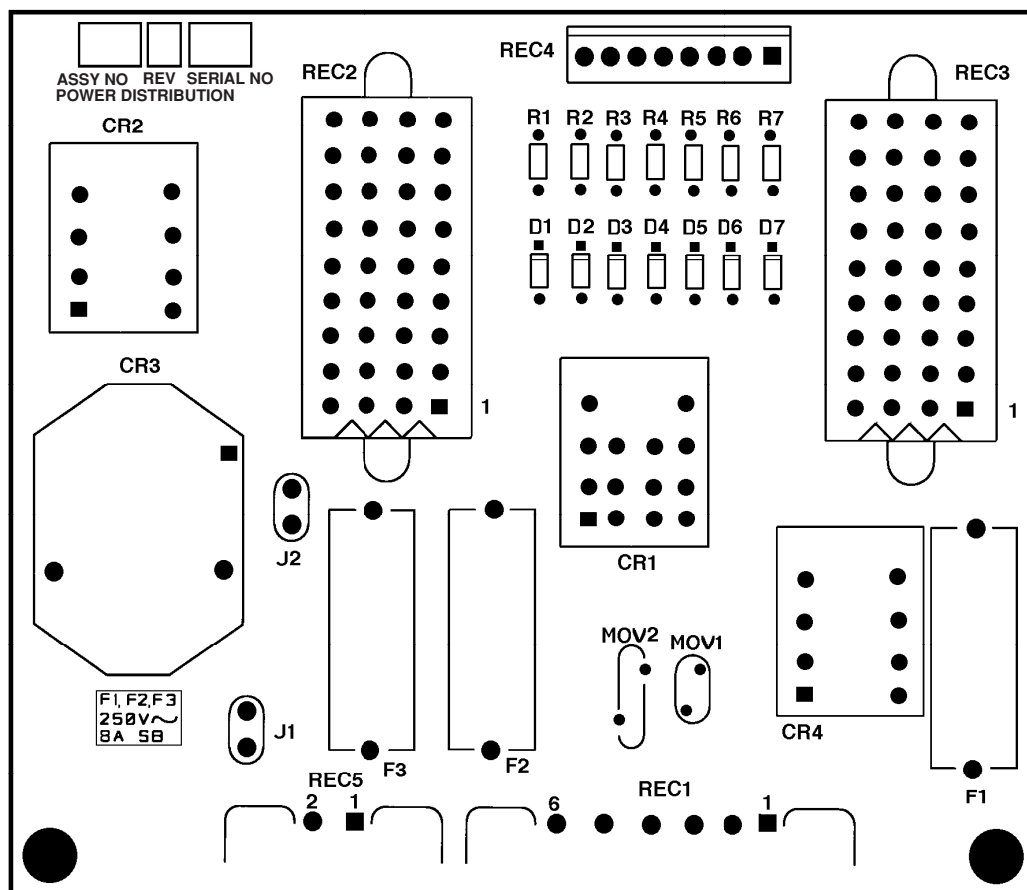

Figure 5-2 Power Distribution Board 1XPCB2
6. Measure voltage at Power Distribution Board 1XPCB2. Refer to Figure 5-2 for detail of 1XPCB2. Also refer to applicable wiring diagram at back of manual, if required. Look on the board for fuses F1, F2, and F3. Measurements between each fuse and chassis ground should be as follows:
1. The green POWER ON push-button switch PB1 is pressed, but the fans are not operating and the green POWER ON indicator does not light.	<div>1.1. The green POWER ON (1) PB1 push button is defective. Check that switch is operating correctly, and that good contact is being made. The POWER ON switch is normally open.</div> <div>1.2. The red POWER OFF (0) PB2 push button is defective. Check that switch is operating correctly, and that good contact is being made. The POWER OFF switch is normally closed.</div> <div>1.3. Associated wiring not making good contact. Check wiring and repair or replace, if necessary.</div>
2. The green POWER ON push-button switch PB1 is pressed, the POWER ON indicator lights, but the fans are not running.	<div>2.1. CR2 on the Power Distribution board is defective. Check that CR2 switches when POWER ON push button is pressed. See Figure 5-2 for location of CR2. If CR2 is defective, unsolder CR2 and replace.</div> <div>2.2. PL25 and REC20 located near the fans (see Figure 6-2 for location of fans) are not seated together securely and/or not getting 120VAC from Power Distribution Board.<ul style="list-style-type: none">• Check pins, connectors and associated wiring for good continuity.• Check for 120VAC at PL25.</div>
<p>2.3. PL2 and REC2 on Power Distribution board (see Figure 5-2 for location of REC2) are not seated well. Check pins, connectors and associated wiring for good continuity. Repair or replace, if necessary.</p>
<p>3. The green POWER ON push-button switch PB1 is pressed, the fans are operating, but the green POWER ON indicator does not light.</p>	<p>3.1. Push button PB1 was not held down long enough. Press and hold PB1 for a minimum of five seconds.</p> <p>3.2. Relay CR1 on the Power Distribution board is defective. Check that CR1 switches when POWER ON push button is pressed. See Figure 5-2 for location of CR1. If CR1 is defective, unsolder CR1 and replace.</p> <p>3.3. One or more of the STATUS LEDs does not illuminate (except yellow OVERTEMP LED which illuminates) indicating a fault condition. To troubleshoot STATUS fault conditions, see Status LED Troubleshooting later in this section.</p>